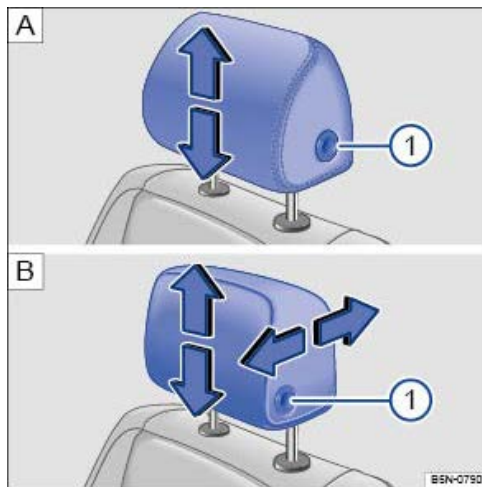
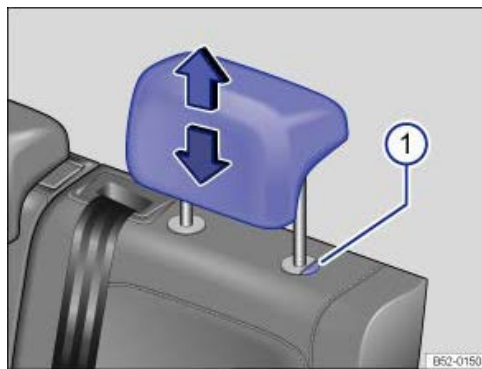

Fig. 98 Adjusting front head restraint: without longitudinal adjustment, with longitudinal adjustment.
Fig. 99 Adjusting rear head restraint.
- Push the head restraint up in the direction of the arrow or push it down with the button pressed → Fig. 98 or → Fig. 99 → .
- Push the head restraint forwards in the direction of the arrow or press button → Fig. 98 and push it backwards.